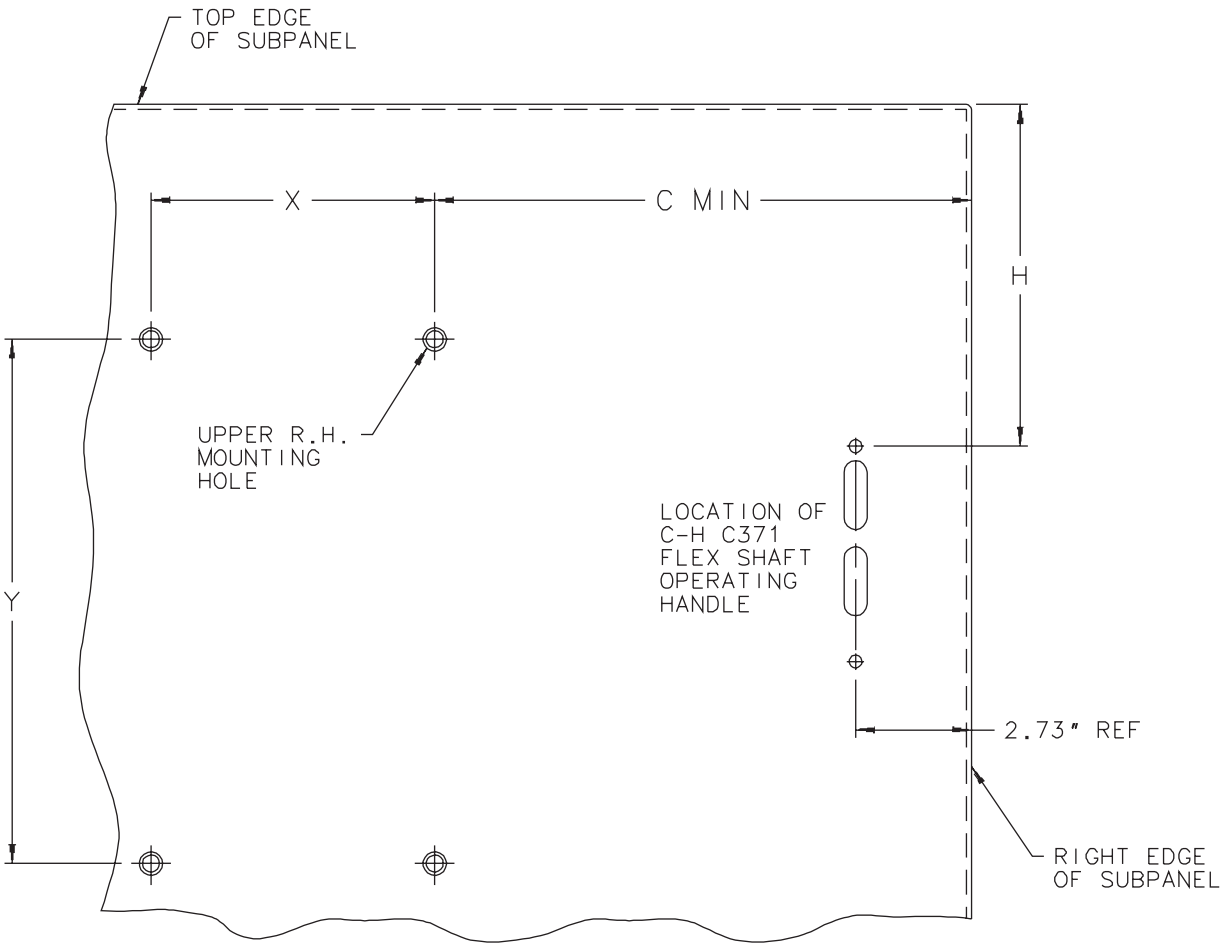

Figure 7
Step 1 – Determine disconnect hole pattern from Figure 7 and the above table. See disconnect manufacturers instructions for range of disconnect location based on cable length being used and subpanel depth selected.